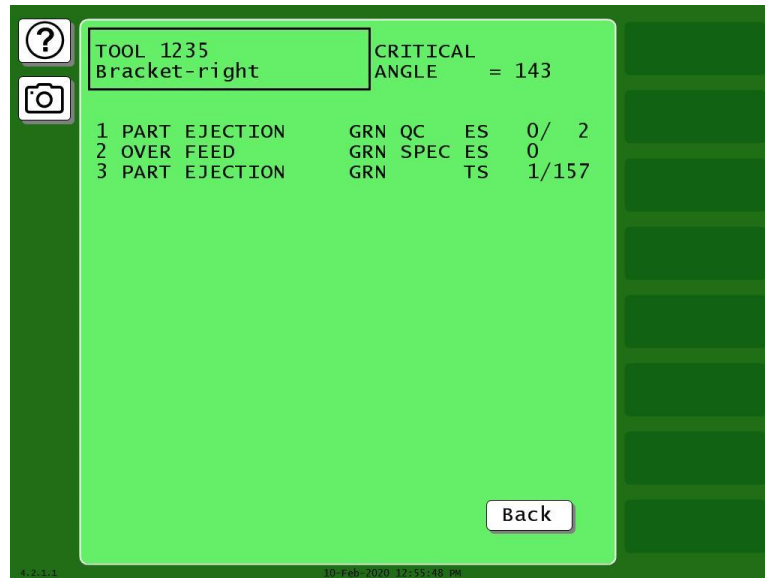

Figure 5-32. Sensor Summary Screen
1. On the Die Protection Sensor Menu, press VIEW SENSOR SUMMARY. The Sensor Summary screen displays, Figure 5-32. This screen shows the sensor name, sensor type, stop type, and the Ready signal On and Off angles for Green, Green Quick Check, and Green Constant sensors or the stroke count for Green Special sensors.